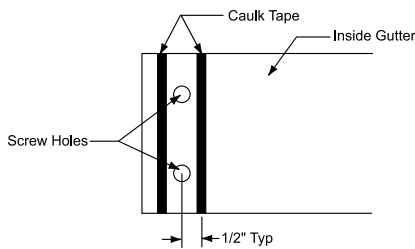

Figure 4
1. Locate the gutter end section (1) that includes an end cap and pre-drilled drain hole. Install the 4" threaded tank fitting into the pre-drilled drain hole.
2. At the open end of the gutter end section, place caulking tape on each side of the bolt holes as in figure 4. Place the next gutter section inside the gutter end section, overlapping the first section with the notched end (located under flange) toward the drain end. Line up the bolt holes and secure with #10 - 24 x 1/2" hex head screws and #10 - 24 whiz lock nuts. Continue assembling gutter sections until complete, always overlapping with the notched end toward the drain end.